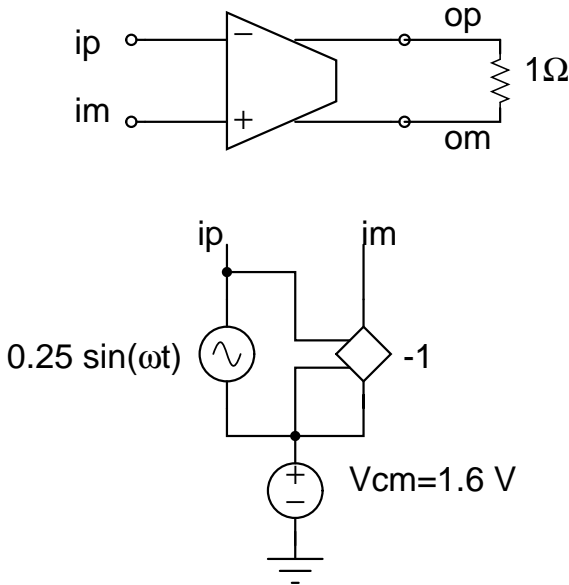

Figure 2: Suggested test-bench to measure distortion.
3. Simulate the distortion performance of the transconductor. A test-bench for the simulation is shown in Figure 2. Simulate for amplitudes of $0.5 V$ and $1 V$ (peak-to-peak differential). Tabulate the third harmonic distortion levels at the two amplitudes. What do you notice?